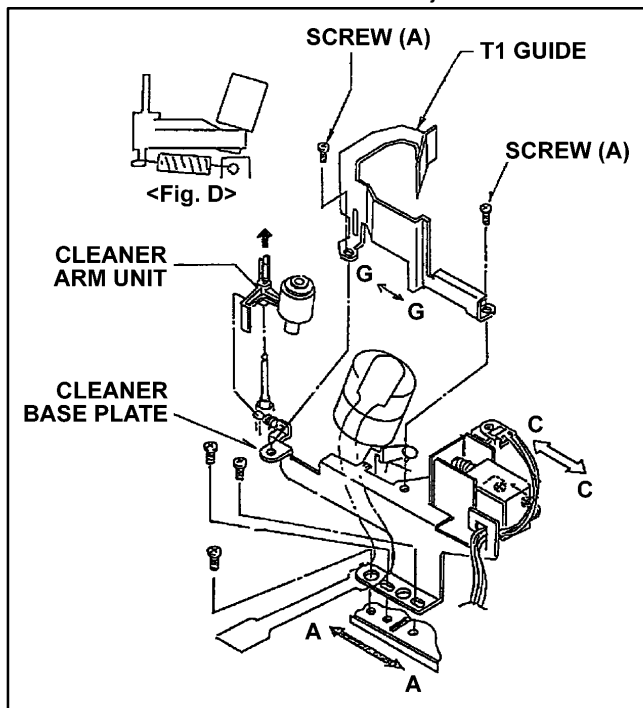

Figure 1-2
1. Unscrew the 2 screws (A) and remove the T1 Guide as shown in Figure 1-2.